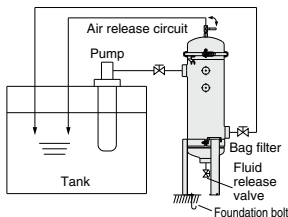

Fig. 1 Example of cyclical filtration circuit
- Use the product with a circuit having lesser fluctuation to the filter caused by pressure or flow. (Refer to Fig. 1.)